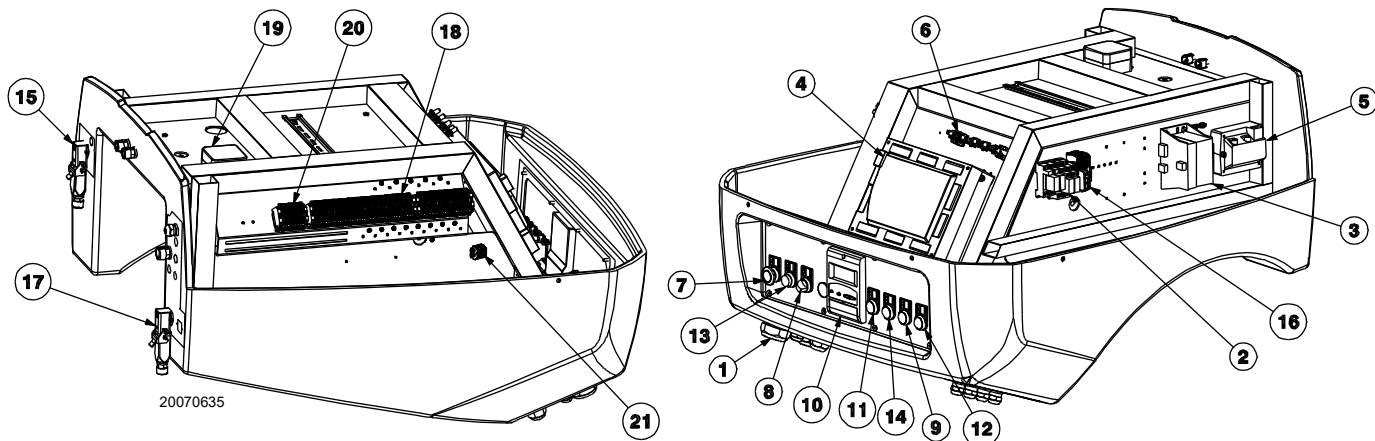

Fig. 5
- **flame control lockout:** switching on of button 13)(Fig. 5) (red led) signals that the burner is in lockout. Release by pressing button 13) or else use the Display 10).